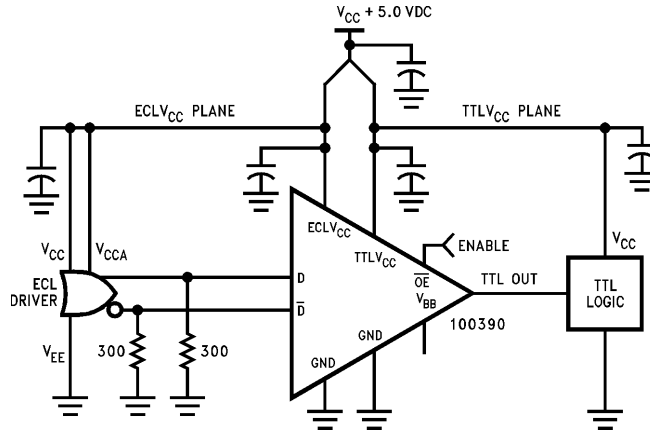

FIGURE 4.
1. Device performance will be enhanced by the use of dual  $V_{CC}$  power planes as illustrated in the Application Figures 4, 5. This will minimize the coupling of TTL switching noise into the primary reference to the ECL circuitry and take full advantage of the 100390's on chip  $V_{CC}$  partitioning.
6. Figure 4 illustrates typical differential input operation.